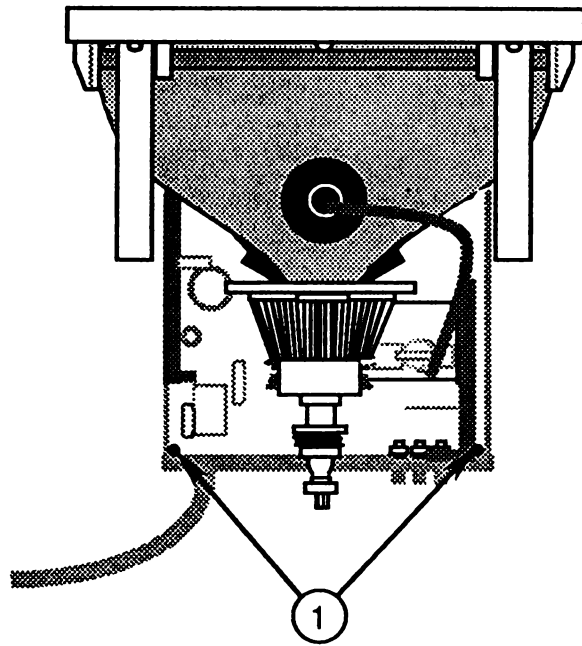

FIGURE 46
7. Replace the two screws (Figure 46, #1) that secure the back panel to the main logic PCB.